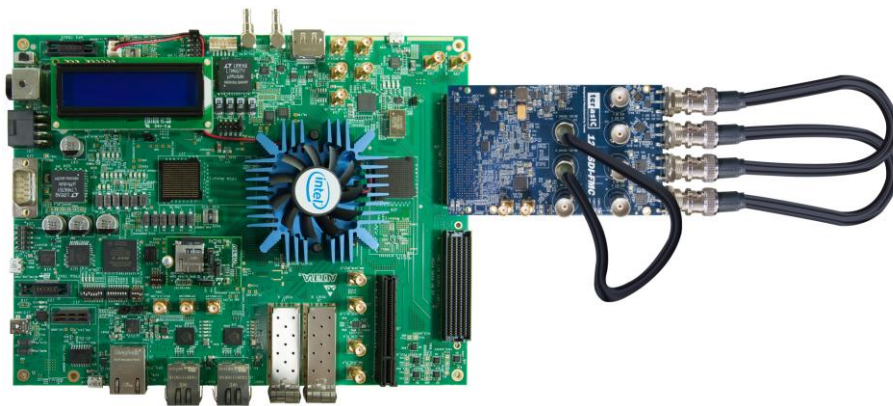

Figure 4-5 Hardware setup of SDI-FMC with A10SoC
Figure 4-5 shows the demo the setup of SDI-FMC with A10SoC FPGA mainboard. The SDI-FMC should be installed on the FMC-A expansion header of the A10SoC. Use one BNC to BNC 3G SDI Cable to connect the BNC port J10 and BNC port J13. Use one BNC to BNC 12G SDI Cable to connect the BNC port J11 and the BNC port 15, and use another BNC to BNC 12G SDI Cable to connect the BNC port J14 and the BNC port 8.
2. Make sure the SDI-FMC is installed as shown in **Figure 4-5**.